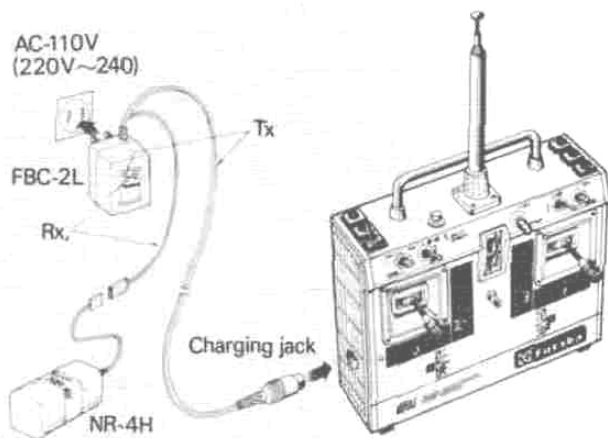

Fig. 3
- Connect the DIN connector of the FBC-2L charger to the charging jack of the transmitter and the 3P connector to the receiver servo NiCd battery (NR-4H), and plug the charger into an AC110V outlet as shown in Fig. 3. The Tx, Rx charging indicator LED illuminate to indicate that the battery is being charged.